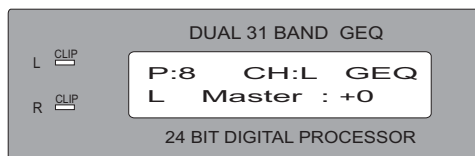

Fig.4 Master volume control menu
3. During status display as Fig/ 3, press B to select require program sequence no., "SAVE..." will display 1st line in the screen, after 3 seconds, display panel will resume to main menu page (Fig. 4).